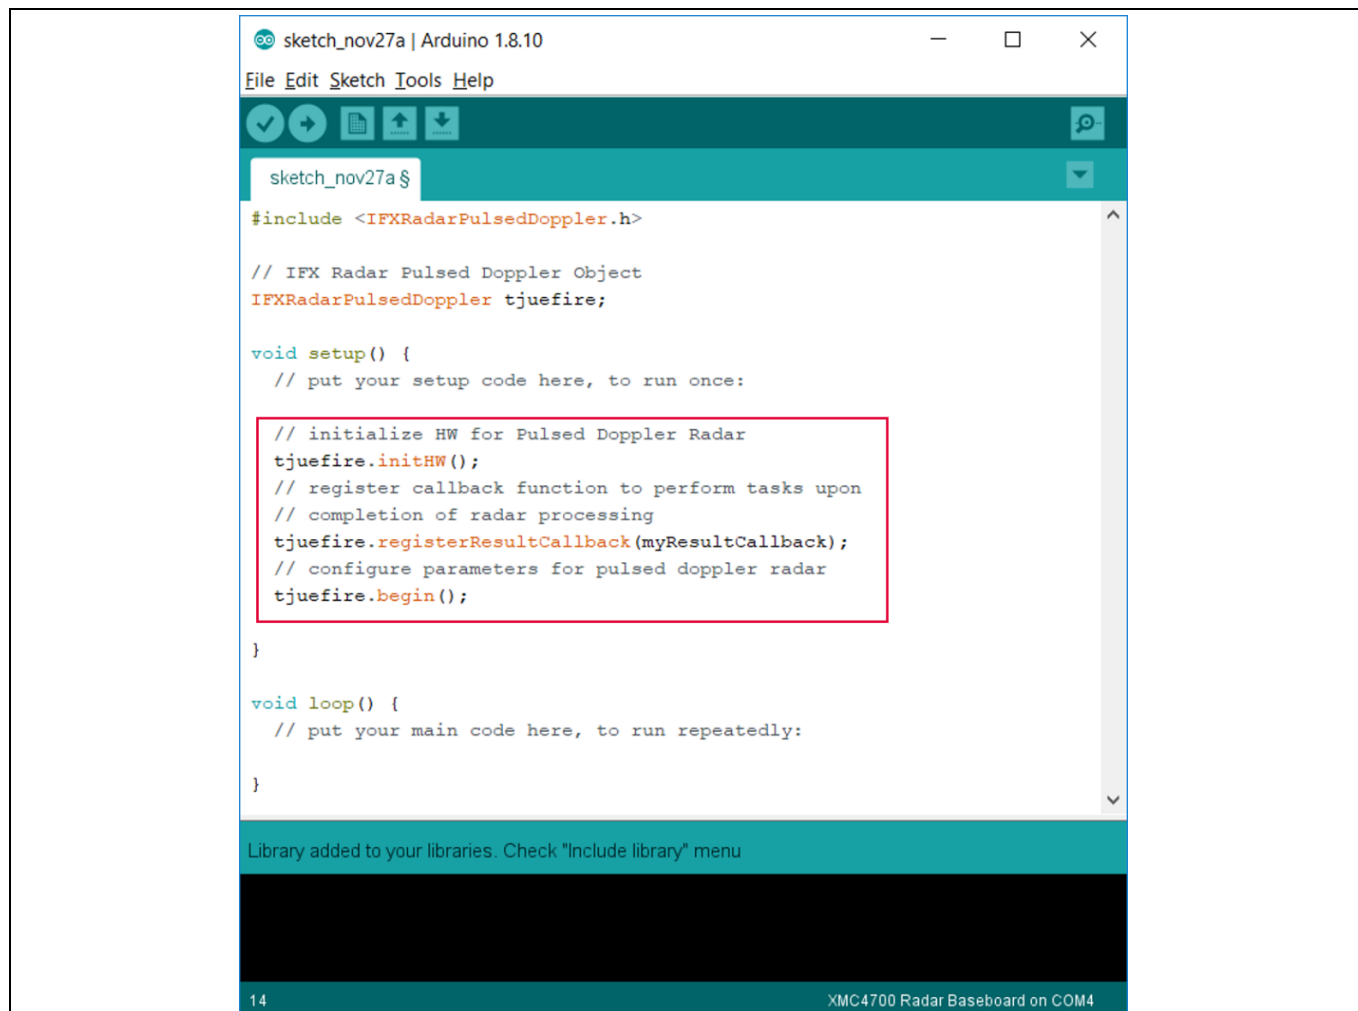

Figure 13 Initializing hardware and parameters for Pulsed Doppler Radar
- Next, some steps are required to initialize the hardware for the Pulsed Doppler Radar and also to configure the parameters. All these are to be done within the setup() routine (Figure 13).